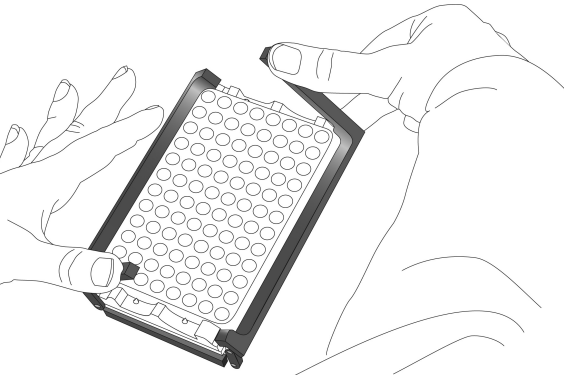

Fig. 4. Closing the ProteinChip cassette-compatible bioprocessor assembly.
5. Snap the leg assemblies closed over the bioprocessor reservoir as shown in Figure 4.